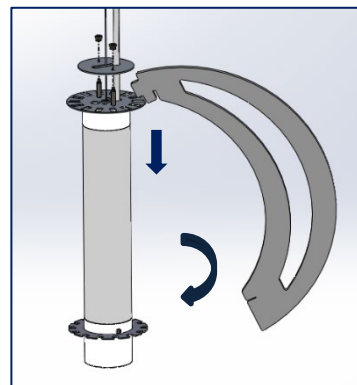

FIG. 29 – FIN INSTALLATION
12. Install the FIRST FIN by inserting the tab into the top fin bracket. Then press the notch into the bottom fin bracket to keep stable as shown below in FIG. 29.